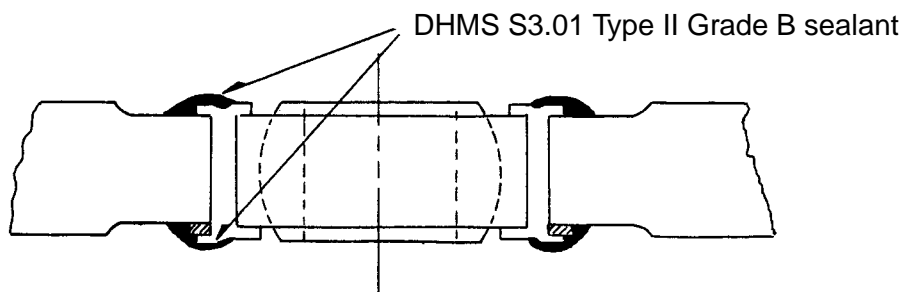

Figure 5 - Sealing of Installed Bushing
- 5.4.1 After installation, seal all bushings with a fillet of DHMS S3.01 Type II Grade B sealant as shown in Figure 5. Refer to PPS 21.21 for general sealing practices. Take care to avoid getting any sealant on the bearing shell or ball.